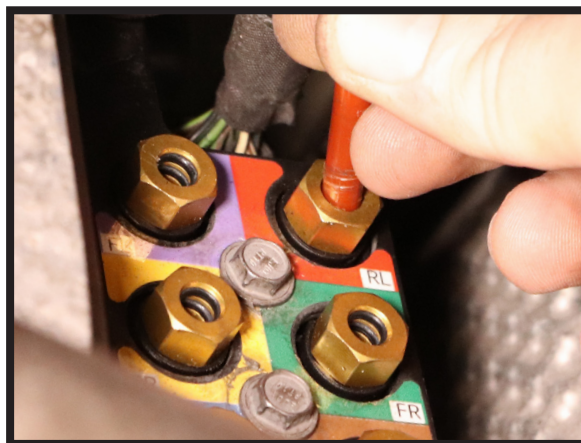

FIGURE 20
5. INSERT THE AIR LINES INTO THE VALVE BLOCK. PRESS THE LINES IN FIRMLY UNTIL THEY ARE FULLY SEATED. (FIGURE 20)